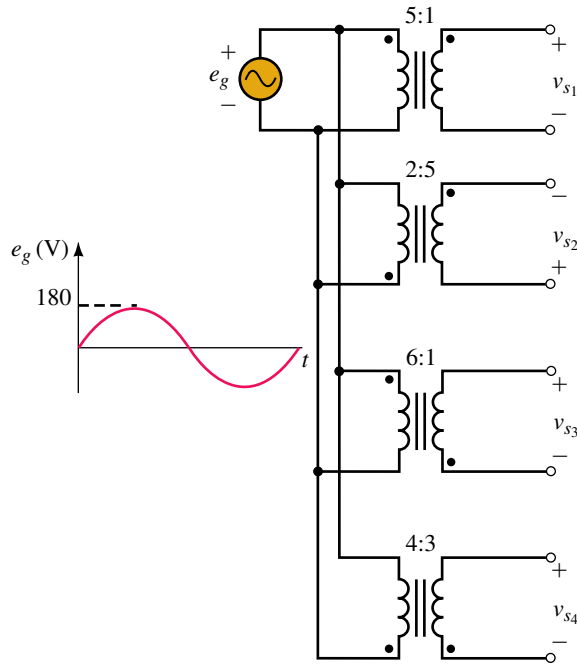

FIGURE 24-16
3. For each of the transformers of Figure 24-16, sketch the secondary voltage, showing both phase and amplitude.